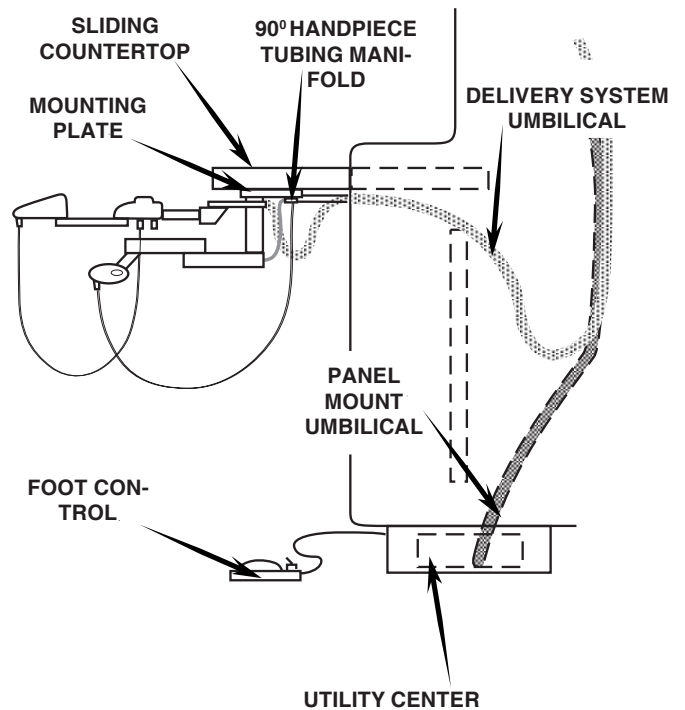

Figure 1. Doctors & Assistants delivery system.
1. Locate mounting plate hole pattern under the sliding countertop and fasten the arm assembly to the underside using the 10-32 screws provided. Position the 90° handpiece tubing manifold towards back of the cabinet. *See Figure 1.*